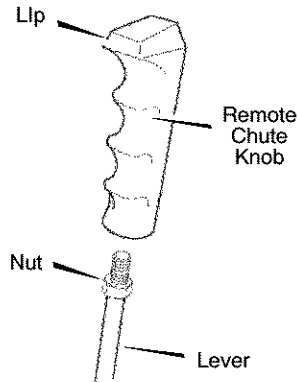

Figure 8
1. Assemble the **remote chute knob** onto the **lever** until snug against the **nut** (see Figure 8). On some models the **remote chute knob** is attached.